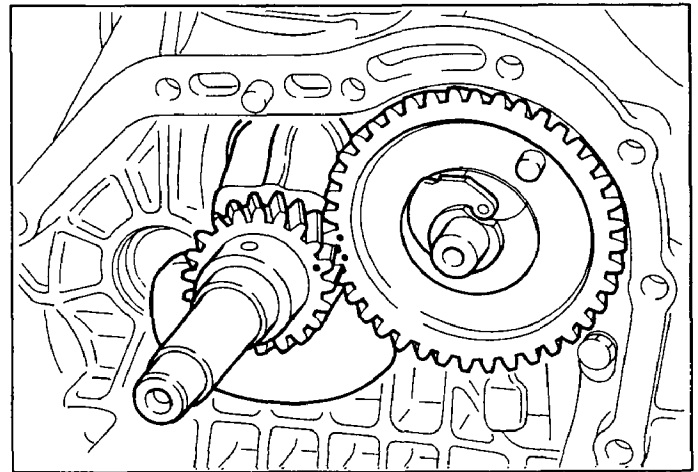

FIG. 48
(2) Install the camshaft into the crankcase matching the timing marks on the crank gear and cam gear. (See Fig. 48.)